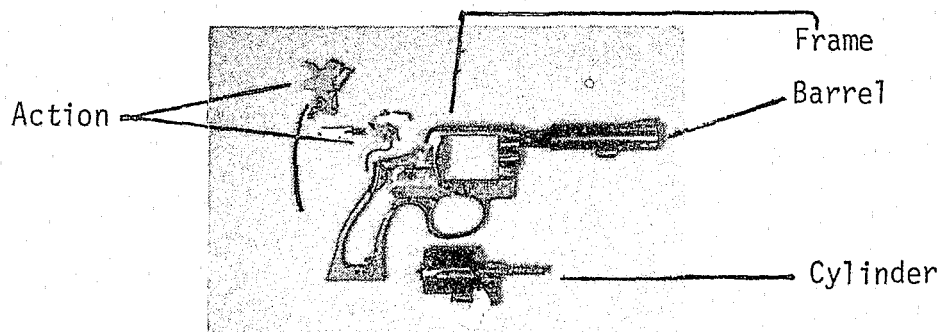

Figure 3-1
1. Major Parts (See Figure 3-1)